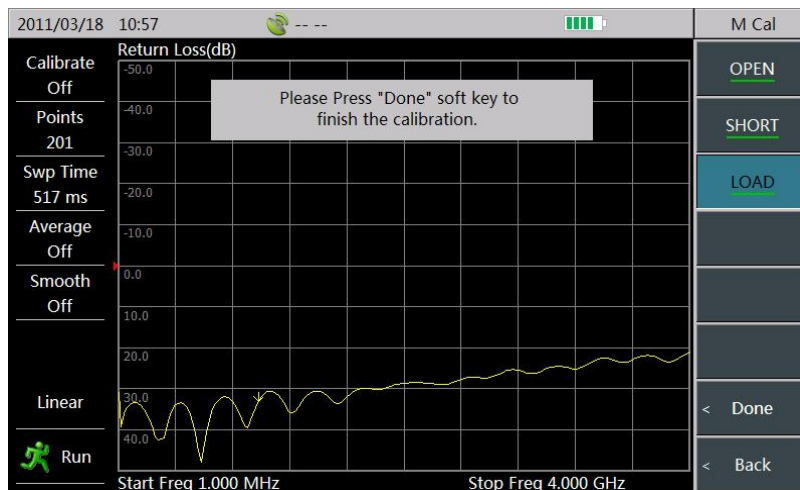

Figure 3-9 Complete Mechanical Calibration
5) Disconnect the short circuit with the calibration port, connect the load, and press [Load] key, then the screen will prompt “[LOAD] Measuring...”. After completing the load measurement, the [Load] item on the right side of the menu bar changes into [LOAD], and the prompt message saying “Please Press “Done” soft key to finish the calibration.” is popped up on the display screen as shown in Figure 3-9. Then press the [Done] key to complete the calibration.